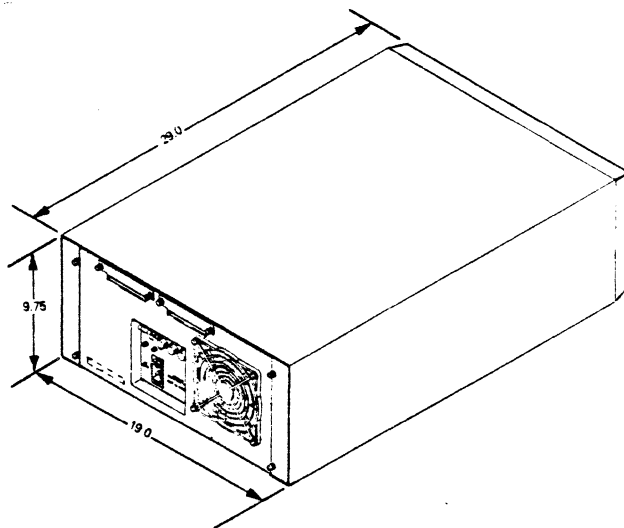

Figure 11-1. Desk Top Enclosure
- Desk Top Enclosure (See Figure 11-1).